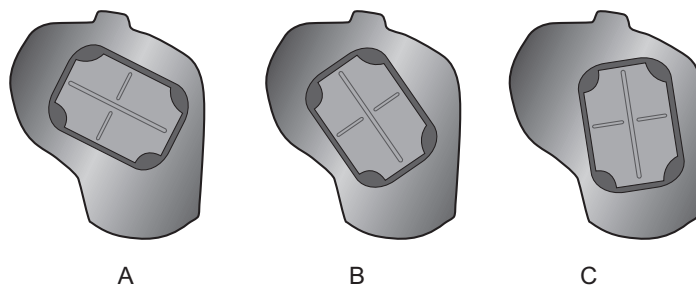

Figure 6-15: Flexor Fitting Panels
1. Select a flexor fitting panel that will elicit the desired hand movement. See Figure 6-15.